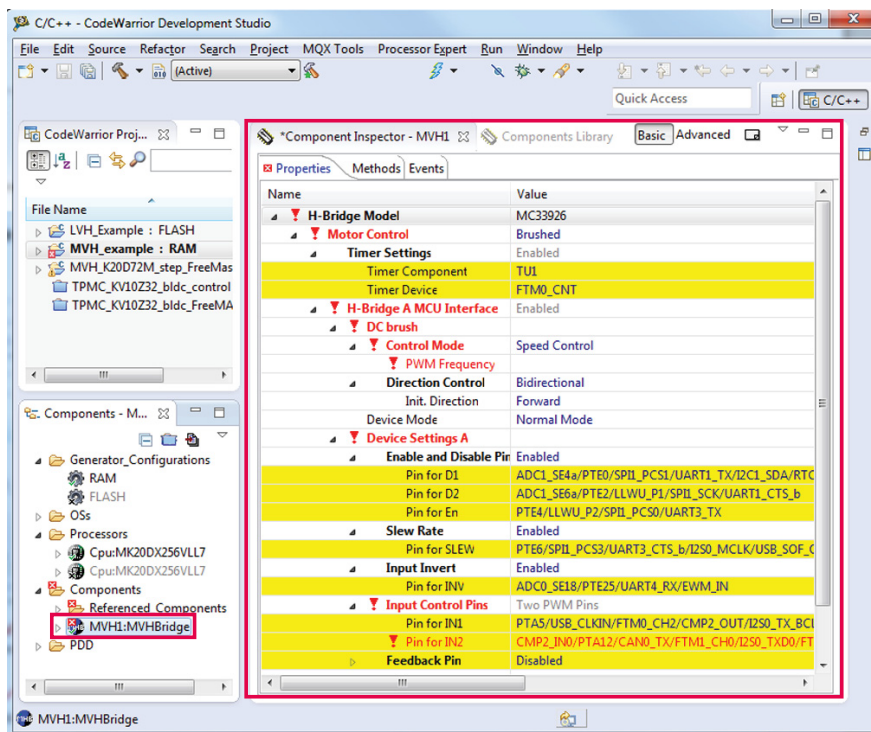

Figure 18. Component inspector view
2. Double click the MVHBridge component (see Figure 18) to show configurations in the Component Inspector view. Set all necessary values according to the application needs.